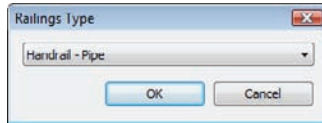

FIGURE 10.11 Select Handrail - Pipe in the Railings Type dialog box
2. In the Railings Type dialog box, select Handrail - Pipe, as shown in Figure 10.11.